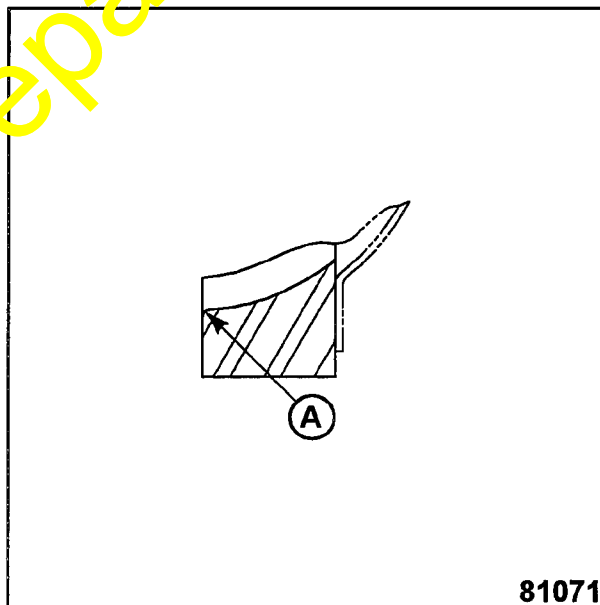

Figure 4
9. Grind ball socket corner to have a .093 radius at (A) in Figure 4. File or grind to eliminate all sharp edges. This socket must be free of grit, dirt, old grease or paint.
10. Grind ball socket corner to have a .093 radius at (A) in Figure 4. File or grind to eliminate all sharp edges. This socket must be free of grime, dirt, old grease or paint.